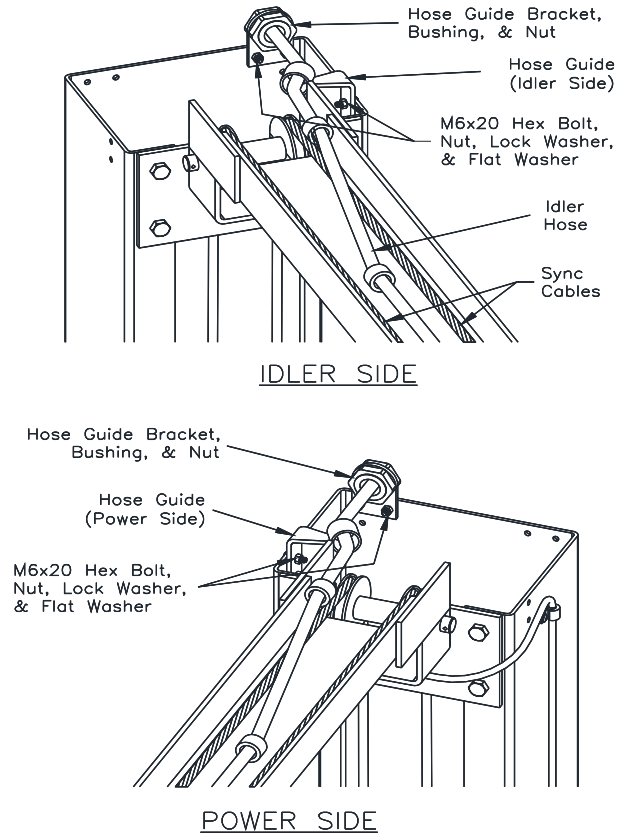

Fig. 8 – Column Extensions
- 23) Beginning on the idler side, attach the idler hose to the cylinder elbow fitting. Route the idler hose (long) up the backside of the column and thru the plastic guide at the top of the extension. Continue across the overhead through each of the guides as shown in Fig 8 and down the backside of the power column.
- 27) Use hardware shown in Fig 8 to install bolt-on hose guide components.